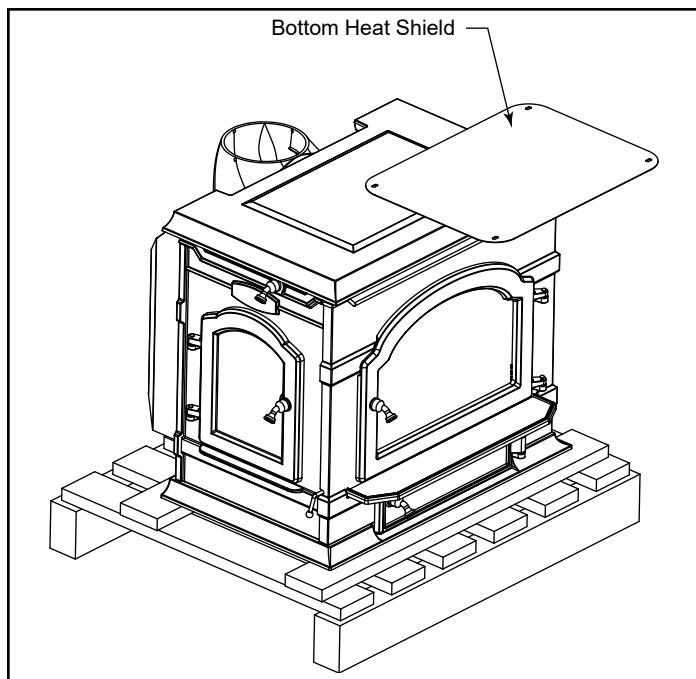

Figure 24 - Remove bands holding stove to pallet and remove heat shield from top of stove.
1. Remove the band that holds the stove to the pallet and remove the bottom heat shield that was positioned on top of the stove. (Figure 24)